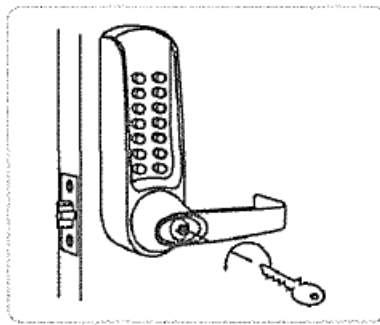

Fig 1
2. Insert key and turn anticlockwise to stop. Fig 1.